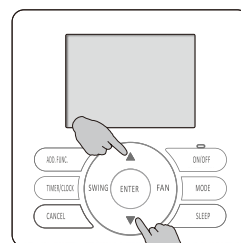

fig.2
2. Press Up or Down button to adjust to the customer-reading parameter code to read. For detailed information, please refer to Table 1. For example, the picture above means that it is a duct indoor unit. (See fig.2)